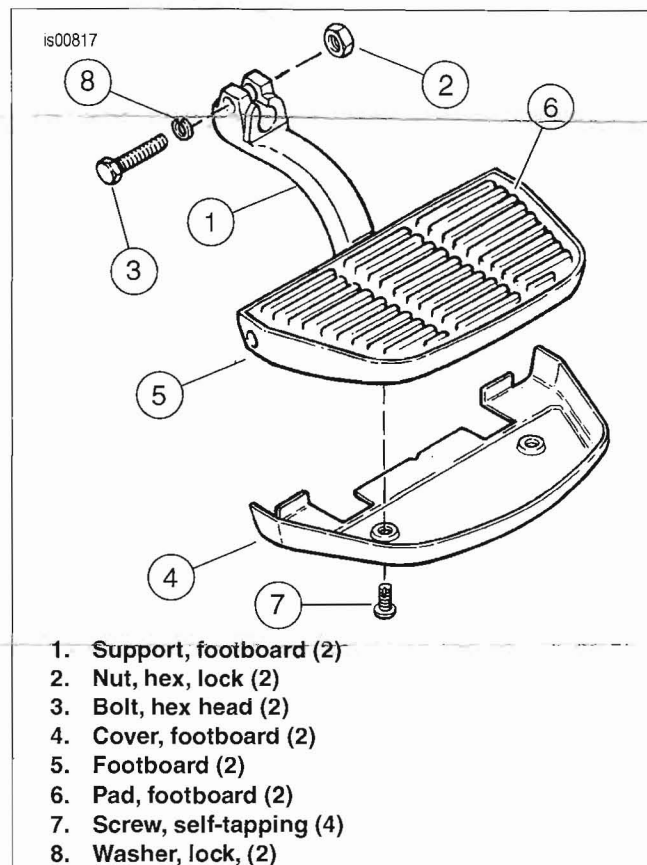
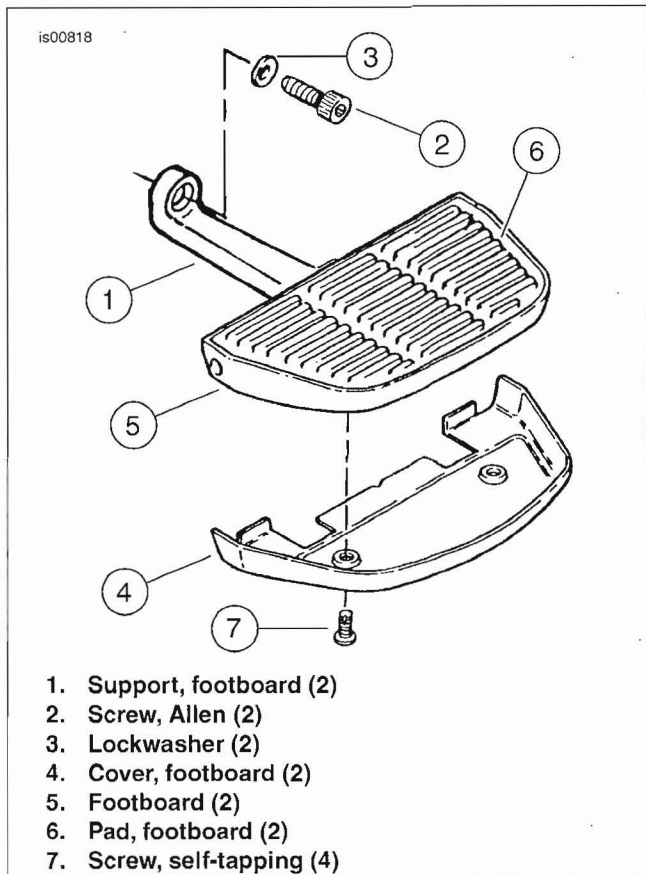

Figure 1. Passenger Footboard and Cover Assembly - 1992 and Earlier Model Vehicles
Figure 2. Passenger Footboard and Cover Assembly - 1993 and Later Model Vehicles
1. **For all 1992 and Earlier model vehicles:** See Figure 1. Remove passenger footboard assembly, including footboard support (1), from mounting stud on motorcycle. Depending on type of footboard support, this will require either removal of self-locking nut (2) and bolt (3), or removal of bolt (3) and lock washer (8) from footboard support split hub.
For all 1993 and Later model vehicles: See Figure 2. Remove passenger footboard assembly, including footboard support (1), from mounting stud on motorcycle. This will require removing the 3/8 in. Allen screw (2) and lockwasher (3) from footboard support.
2. **For all model vehicles:** See Figure 1 or Figure 2. Position cover (4) from kit onto underside of footboard (5). Mark location of the two mounting holes of cover onto underside of footboard. Remove cover from footboard. Use a center punch to make a small indentation in exact center of each marked-off position on footboard; this will help to prevent the drill bit from "walking" during the following drilling procedure.